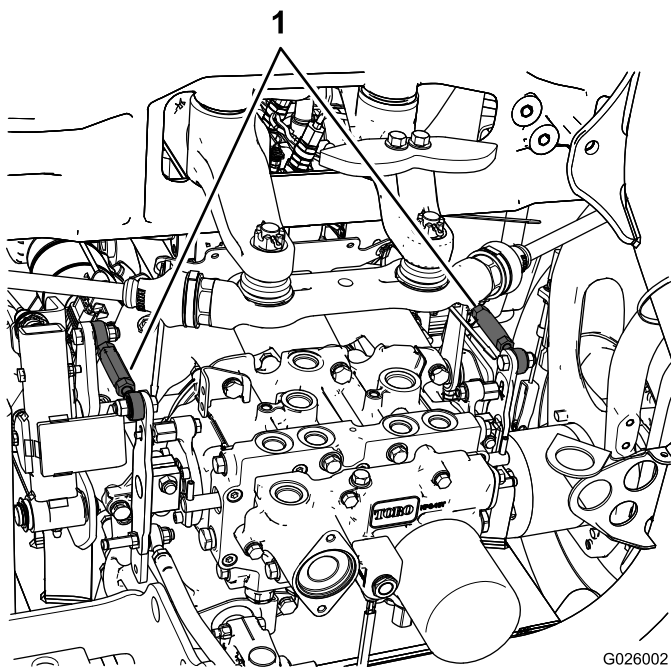

Figure 44
- If the left rear tire is rotating, loosen the jam nuts on the left side transmission control rod (Figure 44).